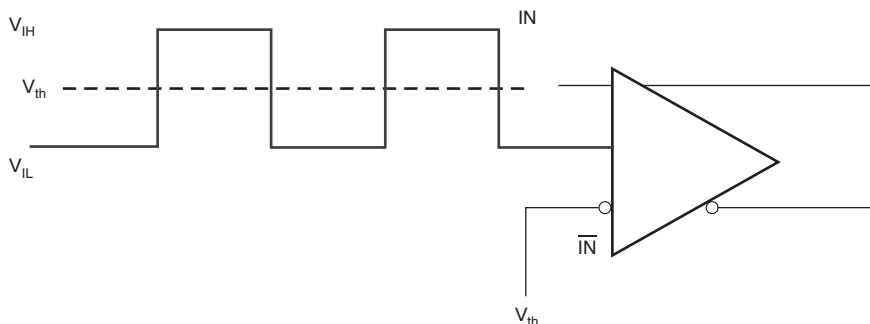
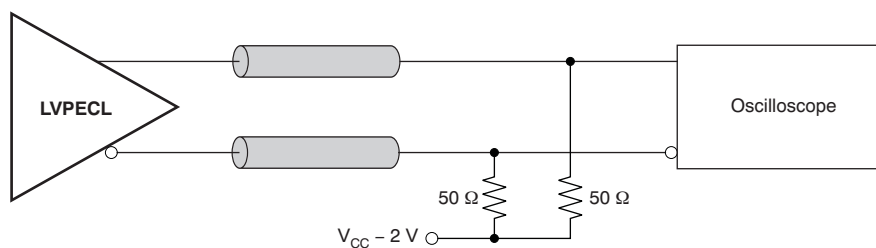
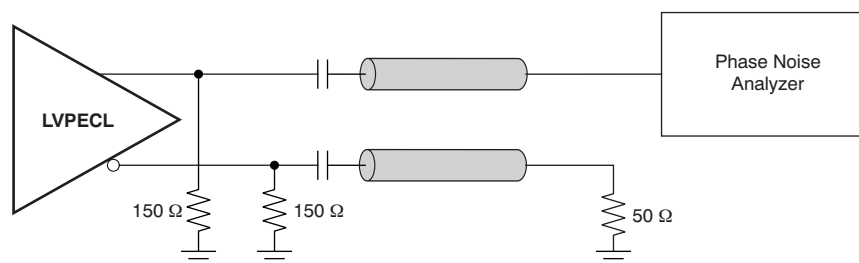

Figure 3. DC-Coupled LVCMOS Input During Device Test
Figure 8. LVPECL Output DC Configuration During Device Test
Figure 9. LVPECL Output AC Configuration During Device Test
(1) Figure 8 and Figure 9 show dc and ac test setup.
This section describes the function of each block for the CDCLVP1212. Figure 3 through Figure 9 illustrate how the device should be set up for a variety of test configurations.